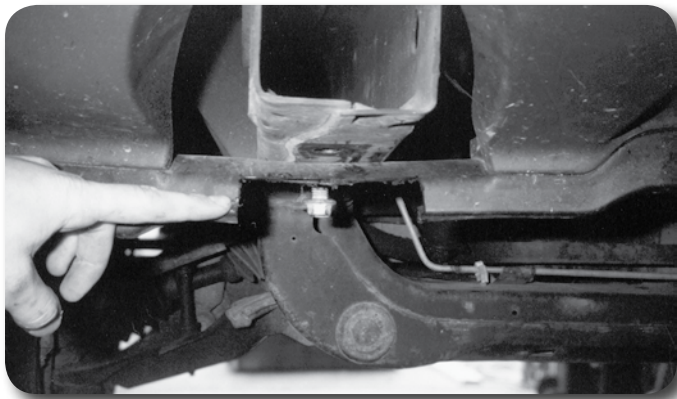

Figure 26
73. Trim the valance where marked **Figure 26**. The valance can be “sandwiched” in between the frame and the tow hook.